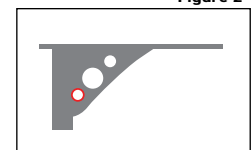
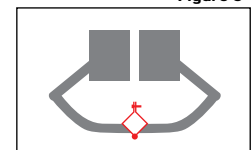

Figure 2
Figure 3
- Align the Bracket Bolt with the lowest of the three Gusset holes (fig. 2) on your Heat Press Caddie™ Stand or Air Fusion IQ™. Close the Arm Assembly around the stand until the Bracket Bolt passes through the Gusset Hole and the hole of the shelving bracket. (fig. 3)